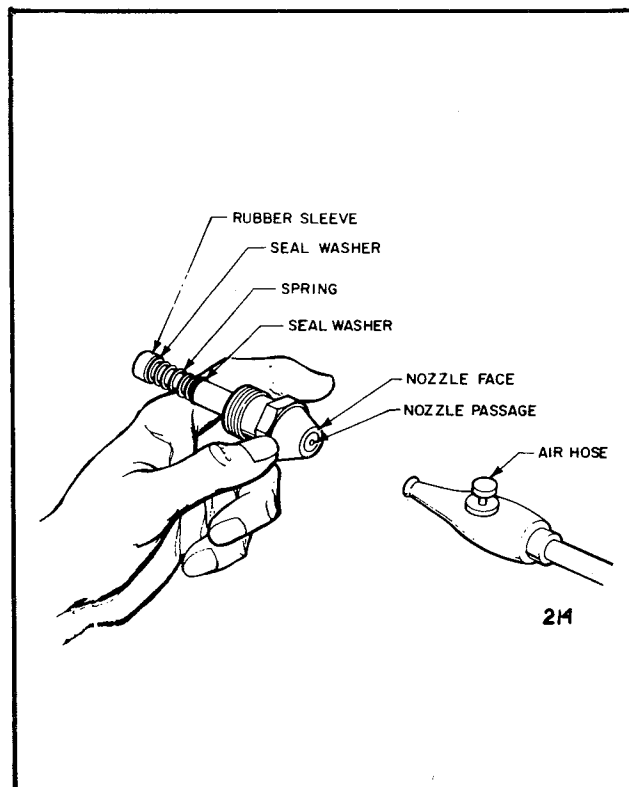

Figure 8. Blowing Out Nozzle With Compressed Air
4. Soak the remaining parts of the burner head assembly for one hour in non-flammable liquid cleaning agent. (DO NOT use kerosene or fuel oil). Blow dry through the face (OUTLET) end ONLY. See Figure 8.